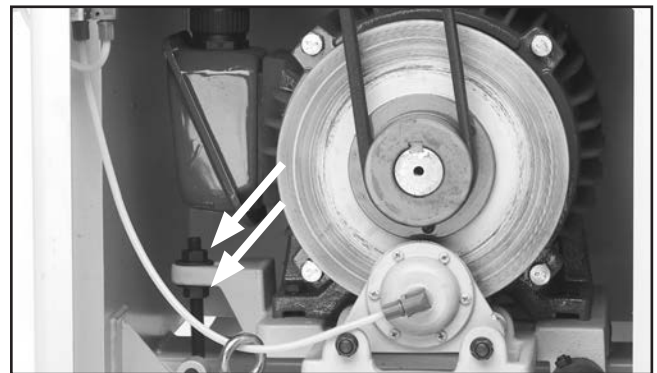

Figure 34. Loosen the V-belt by using the adjustment nuts.
3. Loosen the top nut on the motor adjustment bolt shown in **Figure 34**. Turn the bottom nut counterclockwise to raise the motor (or pry motor up with a scrap piece of wood) and loosen the V-belts.